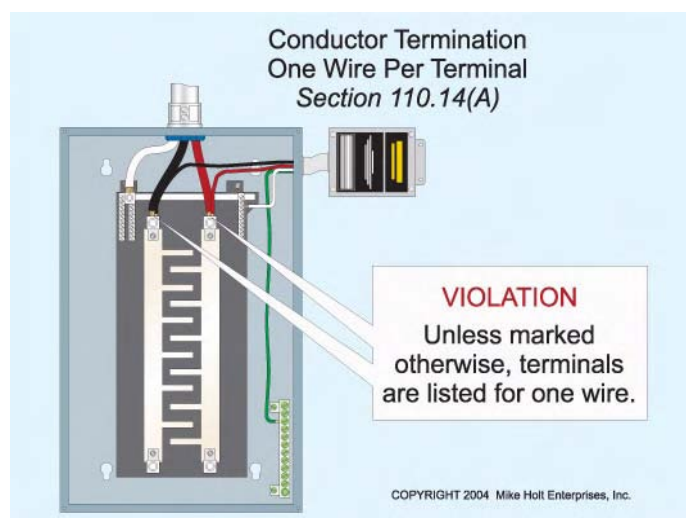

Figure 110–21
*One Wire Per Terminal: Terminals for more than one wire must be identified for this purpose, either within the equipment instructions or on the terminal itself. **Figure 110–21***
AUTHOR'S COMMENT: Split-bolt connectors are commonly listed for only two conductors although some are listed for three conductors. However, it's a common industry practice to terminate as many conductors as possible within a split-bolt connector, even though this violates the *NEC*. **Figure 110–22**